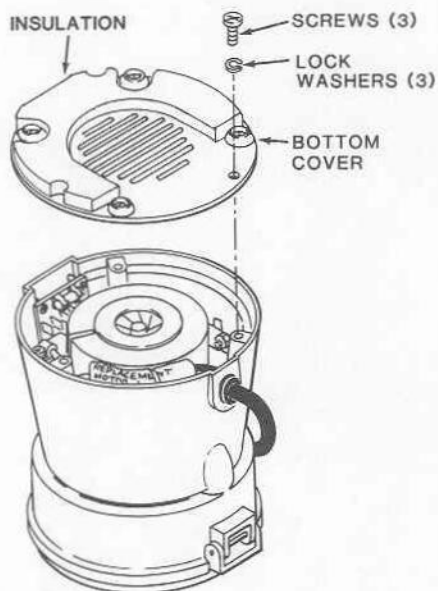

Figure 5-2. Removal of Bottom Cover
- Detach cover (Figure 5-2) by removing three attaching screws and lockwashers that secure cover to base of housing. Do not remove rubber feet from bottom cover.
- g. Detach bottom cover (Figure 5-2) by removing three attaching screws and lockwashers that secure cover to base of housing. Do not remove rubber feet from bottom cover.